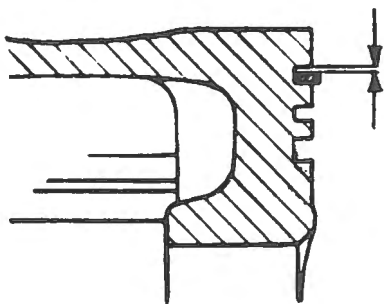

Fig. E-41
- 7 Check the piston ring to groove clearance, Fig. E-41.